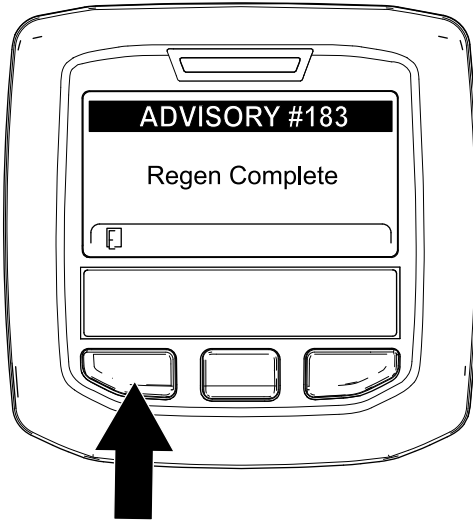

Figure 56
9. When the engine computer completes a parked or recovery regeneration, the InfoCenter displays ADVISORY #183 (Figure 56). Press the left button to exit to the home screen.